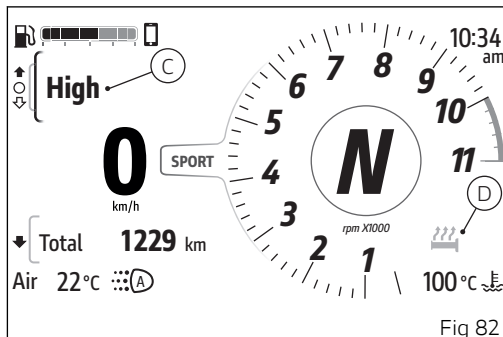

Fig 82
Window (C, Fig 82) is displayed for adjusting the handgrip heating; here the 4 available levels (High, Medium, Low, Off) and the "Back" item are listed. Use buttons (1) and (2) to scroll through the available levels. Press the ENTER button (3) to confirm the selected level. To close the window, select the "Back" item and press the ENTER (3) button, or press and hold button (1).
Each level is associated with an icon (D, Fig 82), displayed in grey when heating is off. When the heating is activated, the icon turns black if the display is in "day" mode and white if the display is in "night" mode.